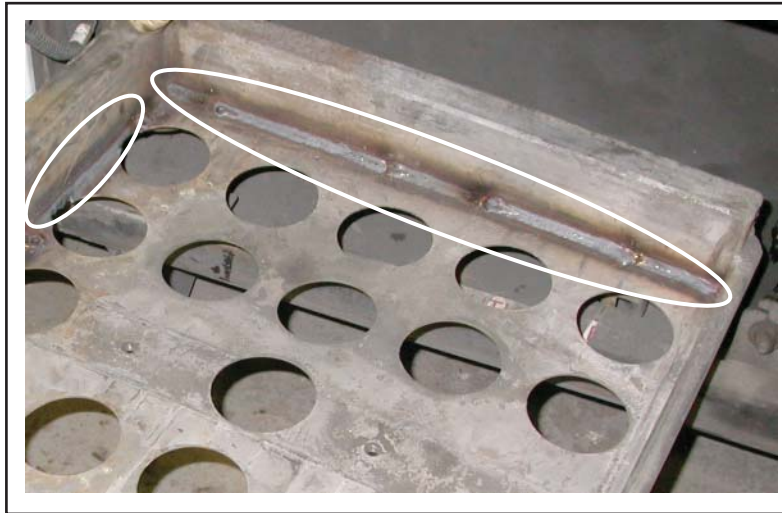

Figure 7 - Bottom Plate Completely Welded to the Tray Frame
- 2.10. Weld the bottom plate completely to both sides of the tray frame. See Figure 7.